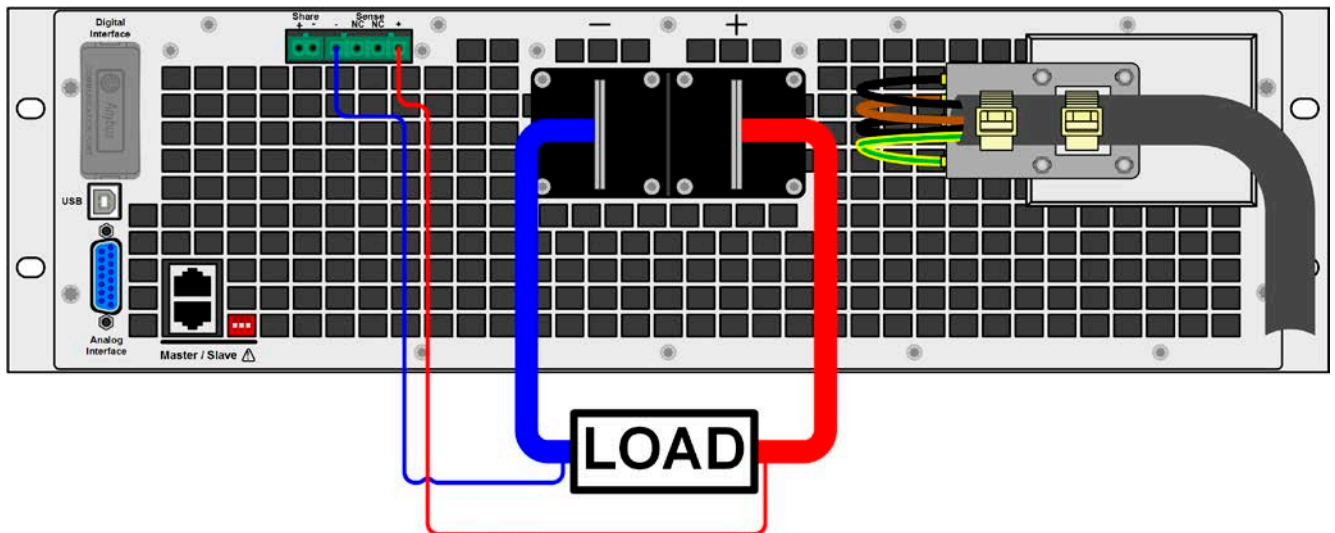

Figure 10 - Example for remote sensing wiring with load in source mode (sink mode will be wired identically)
- Remote sensing is only effective during constant voltage operation (CV) and for other regulation modes the sense input should be disconnected, if possible, because connecting it generally increases the oscillation tendency
- The + sense cables must be connected to + on the load/source and - sense to - at the load/source, otherwise the sense input could be damaged. For an example see Figure 10 below.